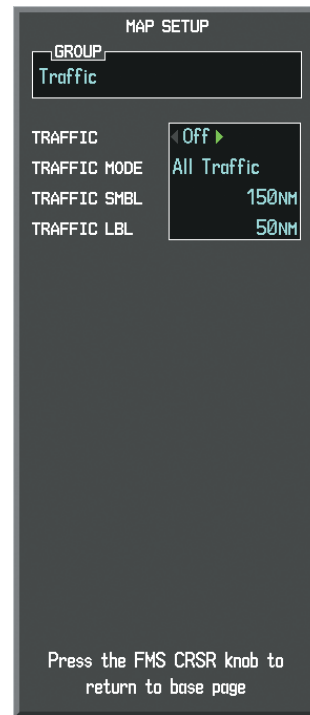

Figure 6-130 Navigation Map Page Setup Menu, Traffic Group
- 5) Turn the large **FMS** Knob or press the **ENT** Key to scroll through the selections (Figure 6-130).